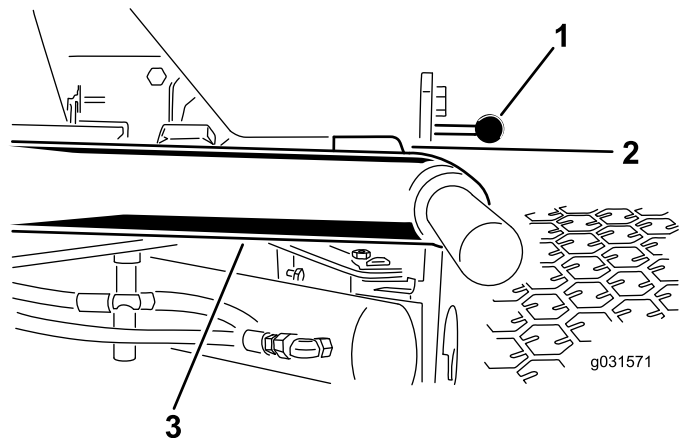

Figure 10
1. Start the engine, raise the cutting units, and ensure that the clearance between each lift arm and the floor-plate bracket is 5 to 8 mm (0.18 to 0.32 inch) as shown in Figure 10.